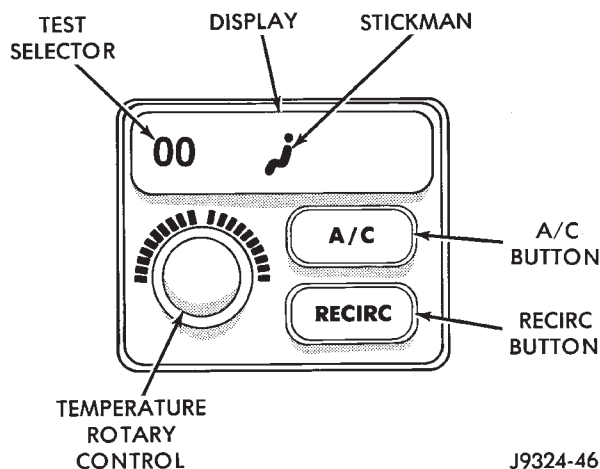

Fig. 14 Test Selector Values Between Zero and Ninety-Nine
(3) If the stick man appears, but no arrows are showing, the displayed Test Selector value will be a range of numbers between zero and ninety-nine (Fig. 14).